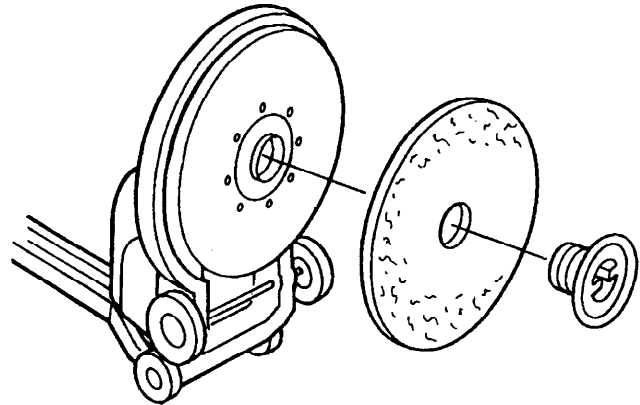

FIG. 2.
5. Place selected pad on flexible pad driver and replace center-lock. Be certain center-lock is tight (Fig. 2).